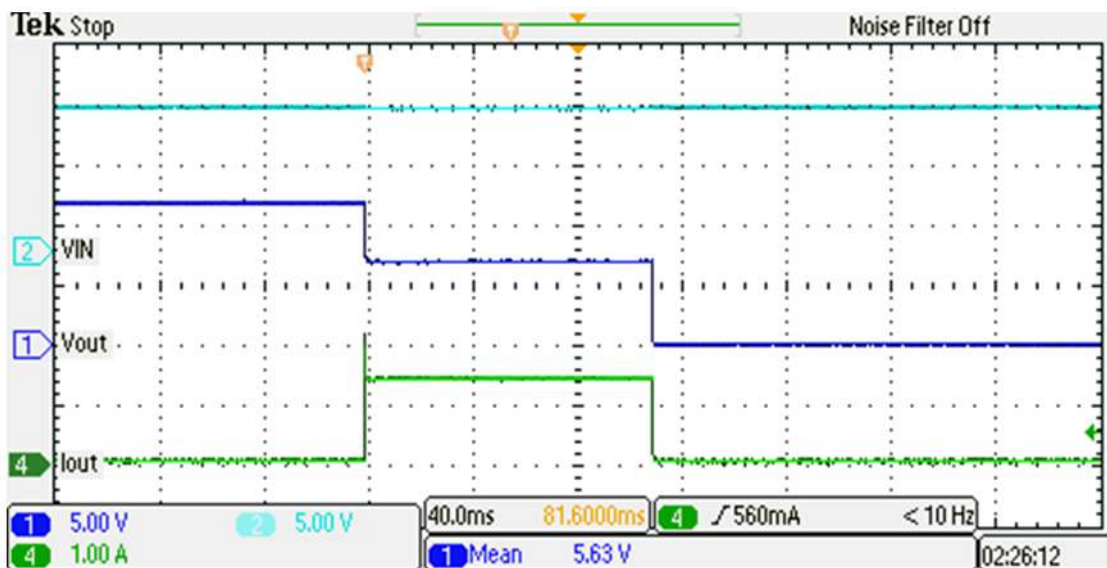

Figure 4. J7 = No Jumper Current Limit (1.5A) Test with Latch (CH2)
- Set the output load at $5.0 \Omega \pm 0.5\Omega$ on CH2 and then enable the load. Turn on the VIN2 power supply and verify that input/output current is limited as per the setting in Table 9. Verify the device is in latched-off mode and that the FLTb2 RED LED (D7) turns ON as shown in Figure 4. The level of the current pulse should match with the load current limit (based on the respective jumper setting) as shown in Table 9.